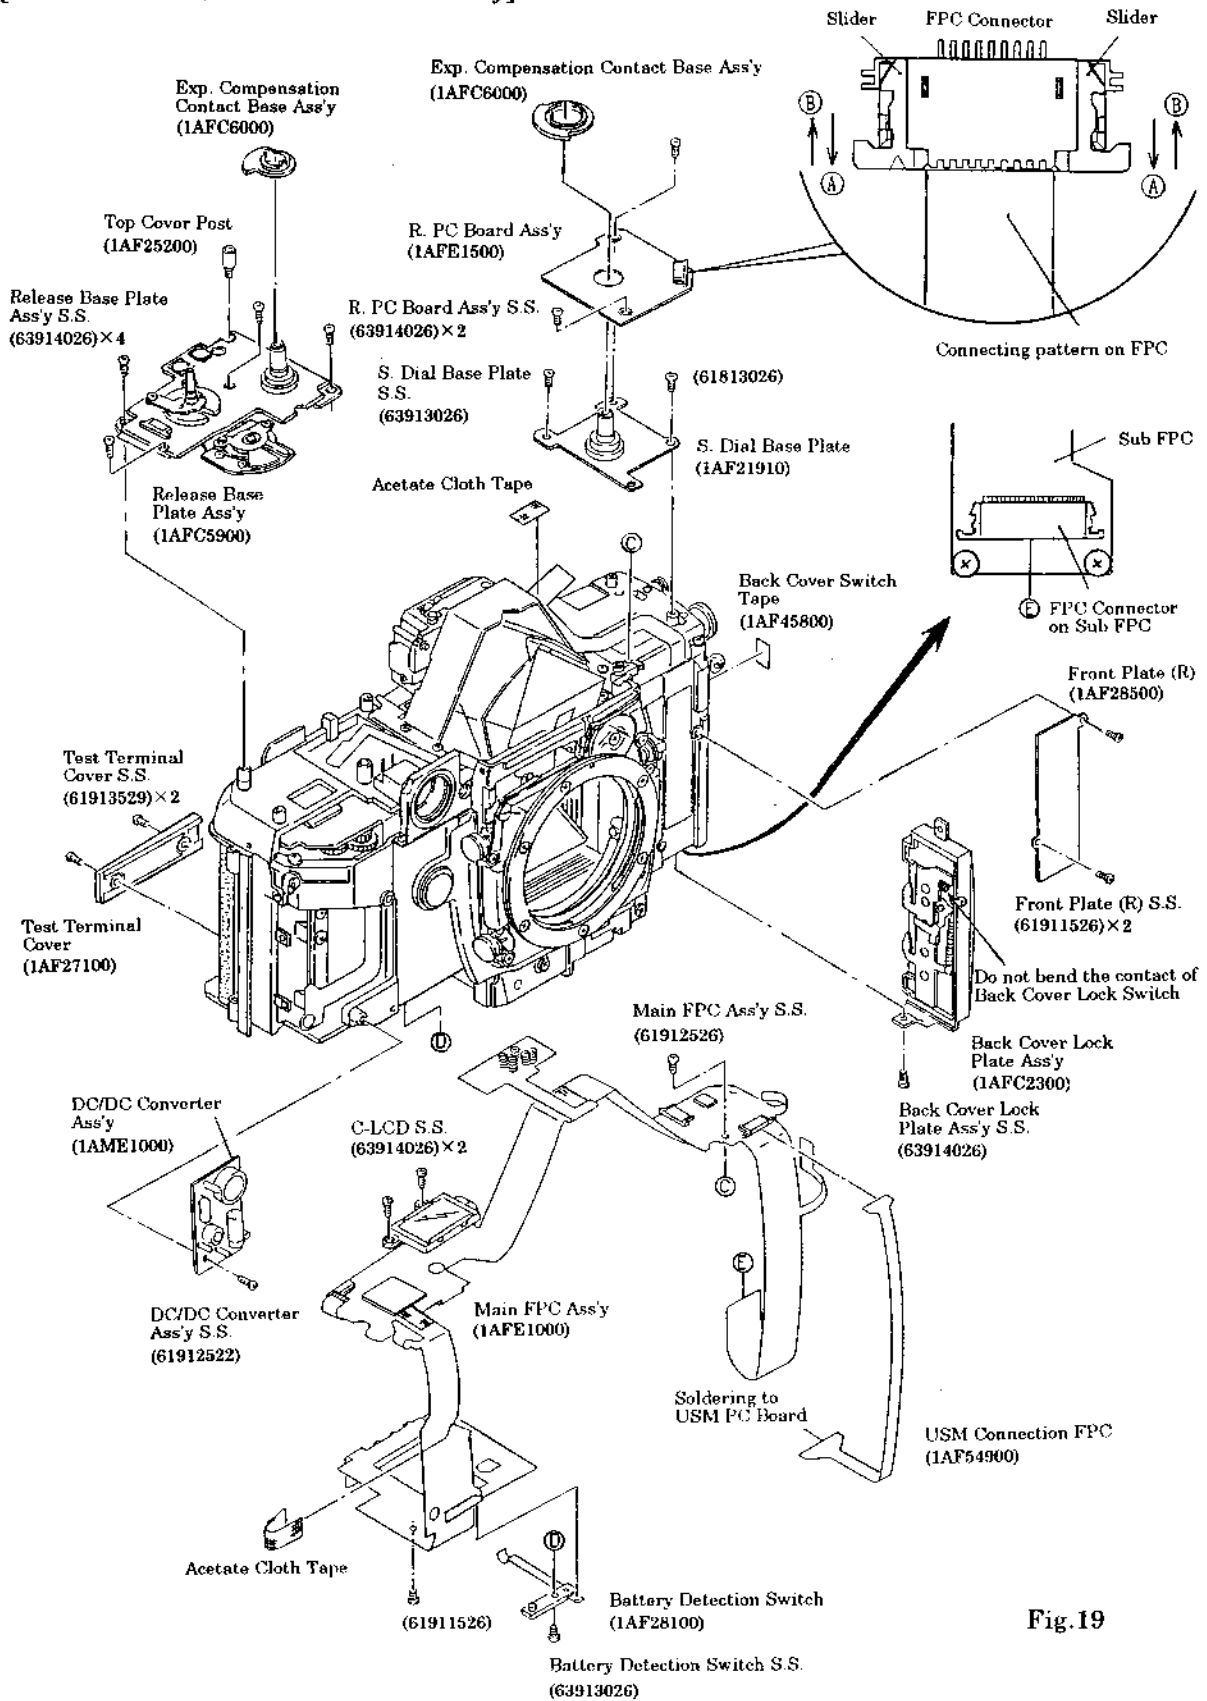

Fig.19
* This camera uses an FPC Connector to connect an FPC to a Board or an FPC to another FPC. To disconnect an FPC from the FPC Connector, move the two sliders of the FPC Connector in the direction of the arrow (A) and remove the FPC. (See Fig.19)
To set an FPC into the FPC Connector, clean the connecting pattern of the FPC with lens cleaning paper with ether alcohol, insert the connecting pattern of the FPC into the FPC Connector and move the two sliders in the direction of the arrow (B). (See Fig.19)
(See Figs. 19 and 20)
(Top left of Body) (See Figs. 19 and 20)
(Bottom of Body) (See Figs. 19 and 20)
(See Fig. 19)